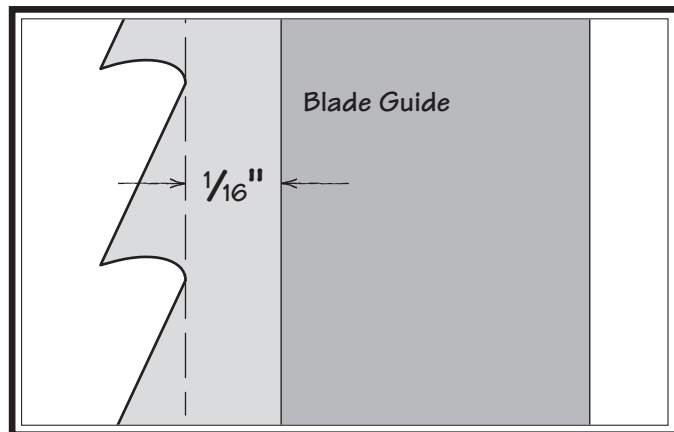

Figure 24. Blade guides positioned approximately $\frac{1}{16}$ " behind tooth gullets.
5. Position the blade guides so that they are approximately $\frac{1}{16}$ " behind the tooth gullets (see **Figure 24**), then re-tighten the blade guide bracket cap screw.